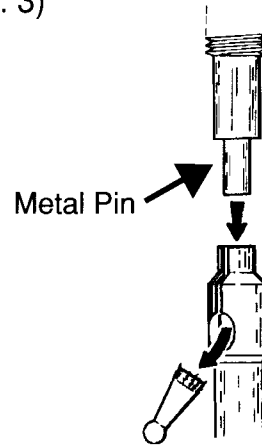

Fig. 3
2. The Seating Tool utilizes a threaded plastic insert with two working ends. Use the end without a slot, and the metal pin provided in the kit, to eject the cored male post out of the Male Coring Tool (Fig. 3)